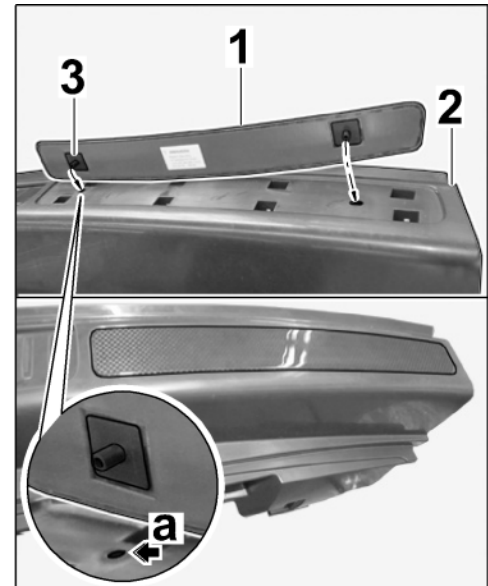

Figure 27
4.2 Install the new carbon-fiber composite trim in the lock carrier cover (rear). ⇒ *Figure 27*
4.2.2 First move the guide pin at the right into the bore hole (⇒ *Figure 27 -Arrow A-*) and then position the carbon-fiber composite trim in the slot.